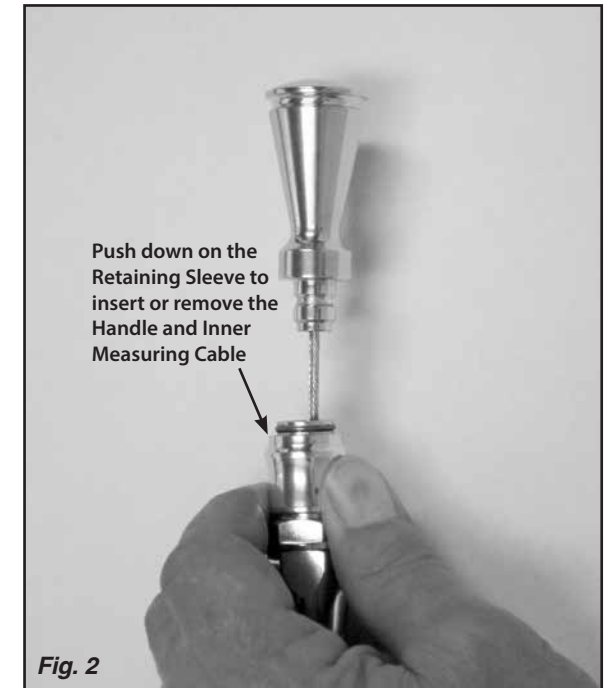

Fig. 2
The Lokar Dipstick tube assembly has a locking quick disconnect fitting on the handle end. To install or remove the handle and inner measuring cable, slide the spring-loaded retaining sleeve downwards away from the handle. Fig. 2
**Step 5:** Insert the handle and inner measuring cable fully into the dipstick tube assembly. The retaining sleeve **MUST** be pushed down in order for the handle and inner measuring cable to be fully inserted. Fig. 2